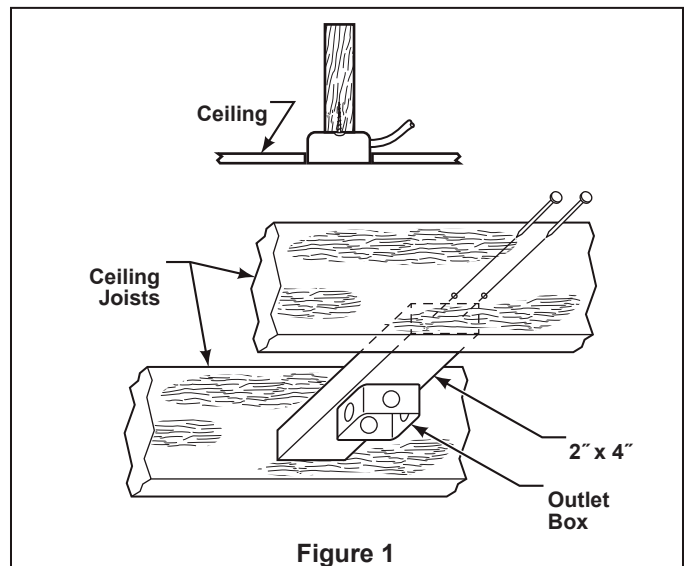

Figure 1
- 3/16-24 x 11mm screws with pan head (13)
- Wire nuts (4)
- 3/16-24 x 13mm screws with flat head (4)
**NOTE:** If you are uncertain of part description, refer to exploded view illustration. (Figure 1, page 13)
Your new ceiling fan will require a grounded electrical supply line of 120 volts AC, 60 Hz, 15 amp circuit. The outlet box must be securely anchored and capable of withstanding a load of at least 50 lbs. **Figure 1** depicts different structural configurations that may be used for mounting the outlet box.
The fan must be hung with at least 7' of clearance from floor to blades (Figure 1)